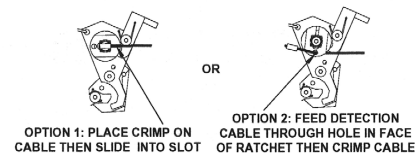

Figure 6.
4. Connect the link line to the fusible link ratchet wheel. See Figure 6.
2. Remove excess slack from the line and cut cable about 3" past Gas Valve Ratchet. Attach the gas line cable to the Gas Valve Ratchet in the same manner as the fusible link line (Refer to Figure 6).